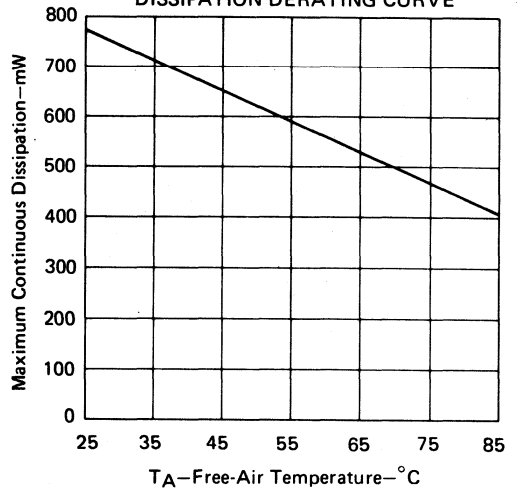

FIGURE 7
2. For operation above  $25^{\circ}\text{C}$  free-air temperature, refer to Dissipation Derating Curves, Figure 6 and Figure 7, page 131.